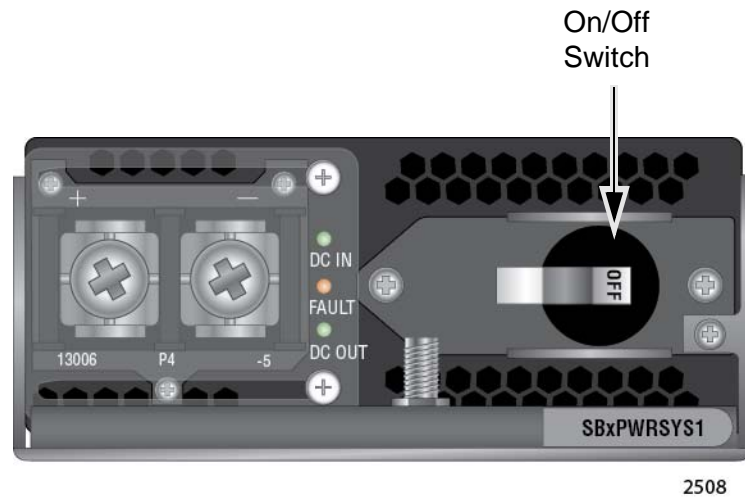

Figure 57. On/Off Switch on the AT-SBxPWRSYS1 DC Power Supply
4. Verify that the On/Off switch on the power supply is in the Off position. Refer to Figure 57 on page 122.